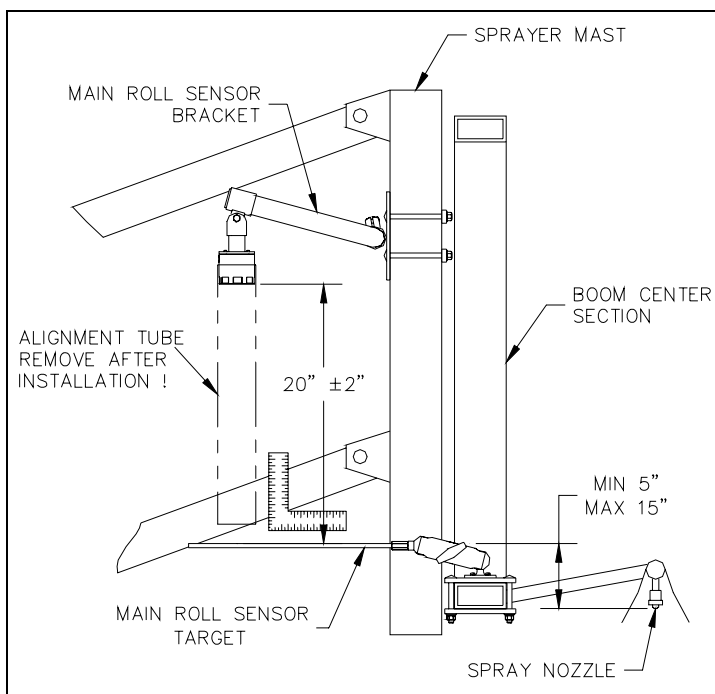

Figure 5 – Sensor Alignment Tube (Side)
- if the sensor is straight vertical, the rod must be horizontal (**Figure 5**)
- Distance from the sensor to the target should be 20 (± 2) inches (**Figure 5**).